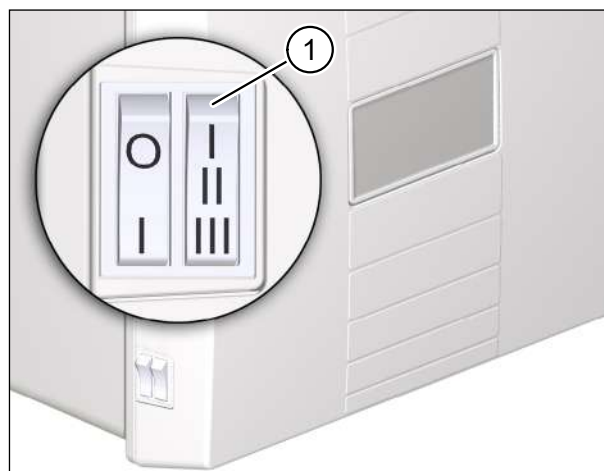

Fig. 21: Resetting the filter change indicator
- ▶ Within three seconds, select the ventilation levels **I-II-III-II-I** one after the other on the step switch (item 1 in Fig. 21).
- ▶ Within three seconds, while the ventilation unit is beeping, again select the ventilation levels **I-II-III-II-I** one after the other on the step switch (item 1 in Fig. 21).